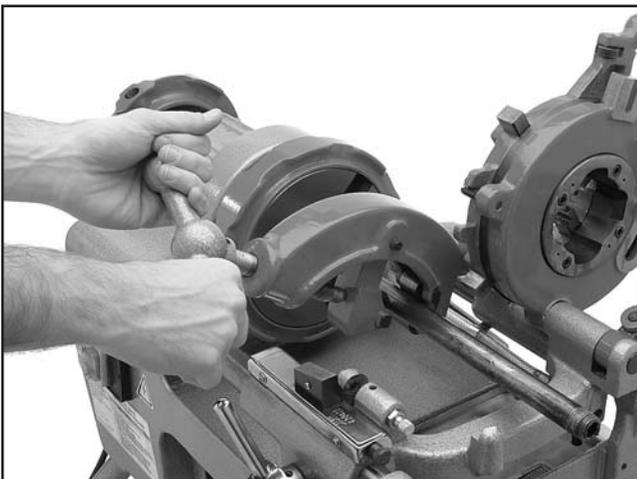

Figure 9. Cutting/squaring the end of the pipe.
5. Slowly increase cutting pressure with the cutting handle until the cut is complete and the end of the pipe falls off. **Figure 9** shows an example of a cutting operation.